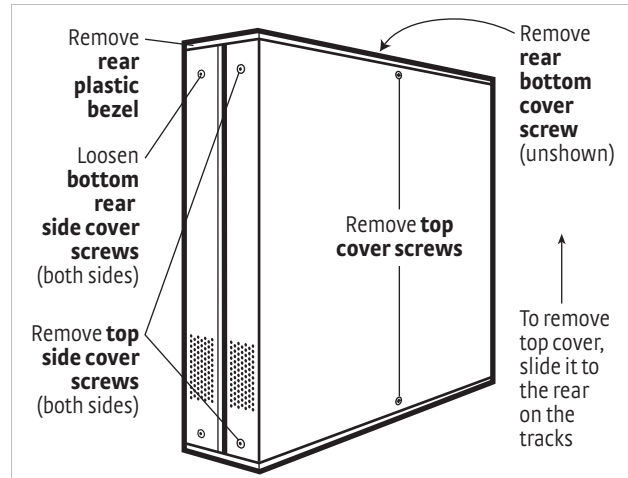

FIGURE 8-9 Cover removal
2. Stand the unit on its face. Use a 5/64 in hex driver to remove the 4 screws on both sides of the top cover. Loosen the 2 rear bottom screws (FIGURE 8-9).
3. Use a small Phillips screwdriver to remove the 2 top cover screws and 1 rear bottom screw (FIGURE 8-9).